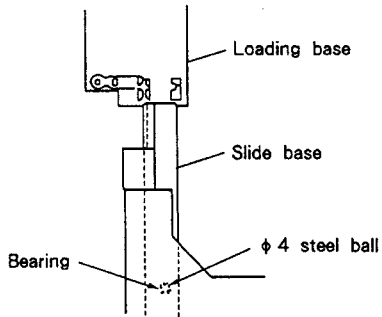
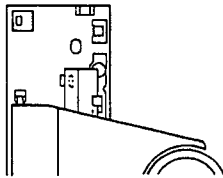

Fig. 7-9
Fig. 7-10
<p>Re-mount the disc tray according to the following procedure when the grating adjustment is complete.</p> <ol style="list-style-type: none"> <li>1. Remove the disc and the spacer.</li> <li>2. While lifting the clamp holder [marked ① in Fig. 7-4] with the right hand, hold the tray in the left hand as indicated by ② and slide the slide base into the hard resin fittings on the loading base as shown in Fig. 7-9 to re-insert the disc tray. At this time, be sure to hold the steel ball in place with the index finger of the left hand. Also, be careful that the front panel is not damaged by the slide base and steel ball's bearing (in the slide base) coming into contact with the panel.</li> <li>3. Insert the slide base so that it fits into the two hard resin fittings at the rear of the loading base (see Fig. 7-10).</li> <li>4. Insert the tray tightly.</li> </ol>